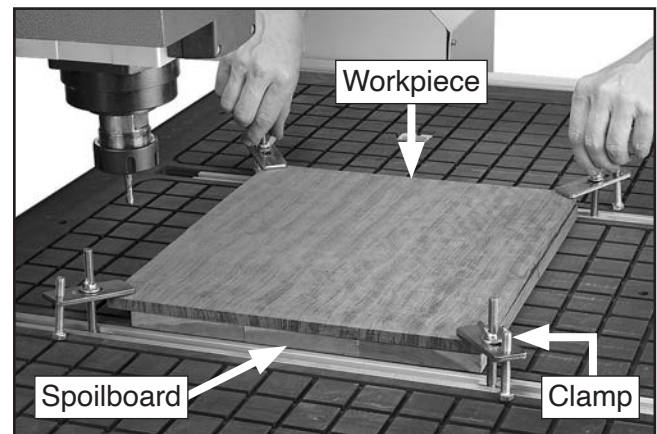

Figure 127. Example of spoilboard clamped to router bed.
1. Clamp surfaced spoilboard to machine bed using included hold-down clamps (see **Figure 127**). If vacuum table is used, secure spoilboard as shown in **Using Vacuum Table** on **Page 65**.